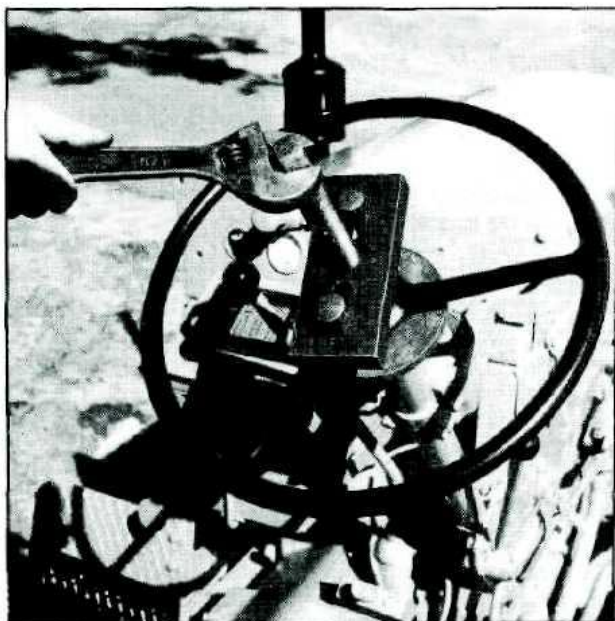

Fig. A.3 — Removing Steering Wheel
2. Remove the domed nut from the steering column and remove the steering wheel. The use of tool No. 22756 or some suitable puller may be found necessary (Fig. A.3). Remove the spring and key.
2. Remove the domed nut from the steering wheel and remove the steering wheel. It may be necessary to use tool No. 22756 or some suitable puller (Fig. A.3). Remove the key.